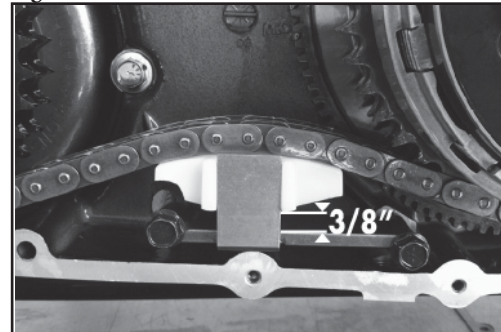

Figure 4
4. Using the two stock mounting bolts from the factory unit, mount the tensioner to the inner primary. Torque the bolts to spec as per your model owner's manual. Measure for the 3/8" spring compression area, from the bottom of the SHOE to where the springs are setting on the guideplate. If this measurement is too loose, you will need to add a shim under the springs. Continue this process until the 3/8" measurement is reached. It is possible a new chain will reach the 3/8" measurement without using any shims. If you need more than the supplied shims, this may indicate that your primary chain is worn and should be replaced. (See "notes & exceptions") See Figure 4.